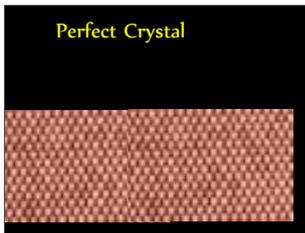

Figure 1
The BBs in this activity represent atoms in a metal. Atoms occupy specific, ordered positions in crystalline metals. In a perfect crystal (as represented by this 2D BB model) each atom (BB) is surrounded by 6 atoms (BBs). (See Figure 1 on the next page.)